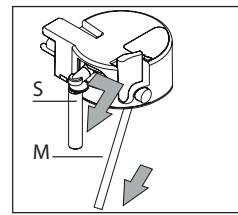

Fig. 45
- ▶ Remove the milk spout and intake tube (Fig. 45).